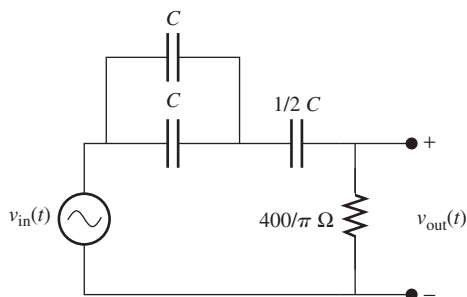

FIGURE P7.25 Filter for Problem 7.25.
7.25 (A) If the transfer function of the circuit in Figure P7.25 is $(jf/500)/[1 + (jf/500)]$, what is the capacitance, C , in the circuit?